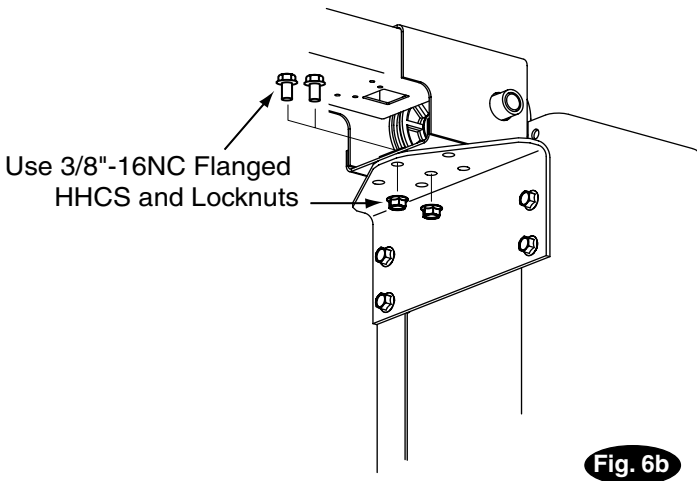

Fig. 6b
8. **Overhead Installation:** Install overhead assembly to Mounting Bracket with (2) 3/8"-16NC x 3/4" Flanged HHCS and (2) 3/8"-16NC Flanged Locknuts, Fig. 6b. Use middle holes for S10i and outside holes (marked L for Left and R for Right) for /A10i and A10i narrow bay settings. Tighten bolts at center of overhead assembly.